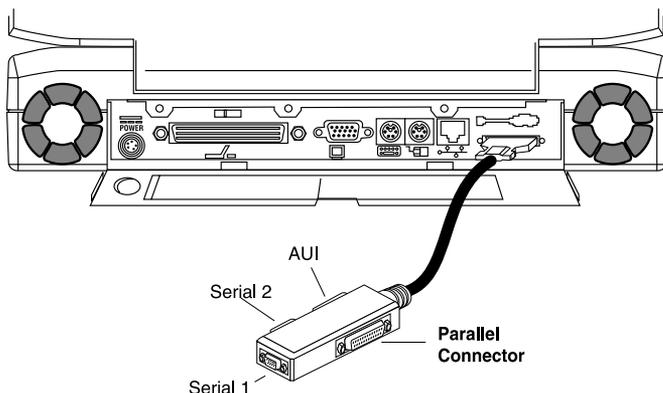

Figure 3-9 Serial Parallel and AUI Connections
The PrecisionBook back panel has a 50-pin connector housing two serial ports, a parallel port, and an AUI (see Figure 3-9).
3. The other end of the I/O break-out cable has two 9-pin connectors for attaching serial devices a 25-pin parallel connector for attaching parallel devices, and a 15-pin AUI connector for attaching other workstation devices (see Figure 3-9). Make the appropriate serial and parallel connections.